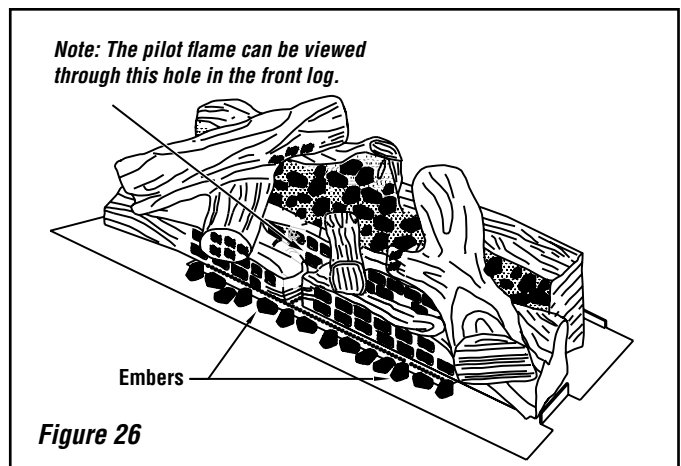

Figure 26
7. **Figure 26** shows the entire log set assembled. The volcanic stone provided may be placed one high in front of the front burner tube using care not to cover all the burner ports. Any extra embers may be placed at the ends of the front log - off the burner. Place small pinches of embers (rockwool) on top of the embers.